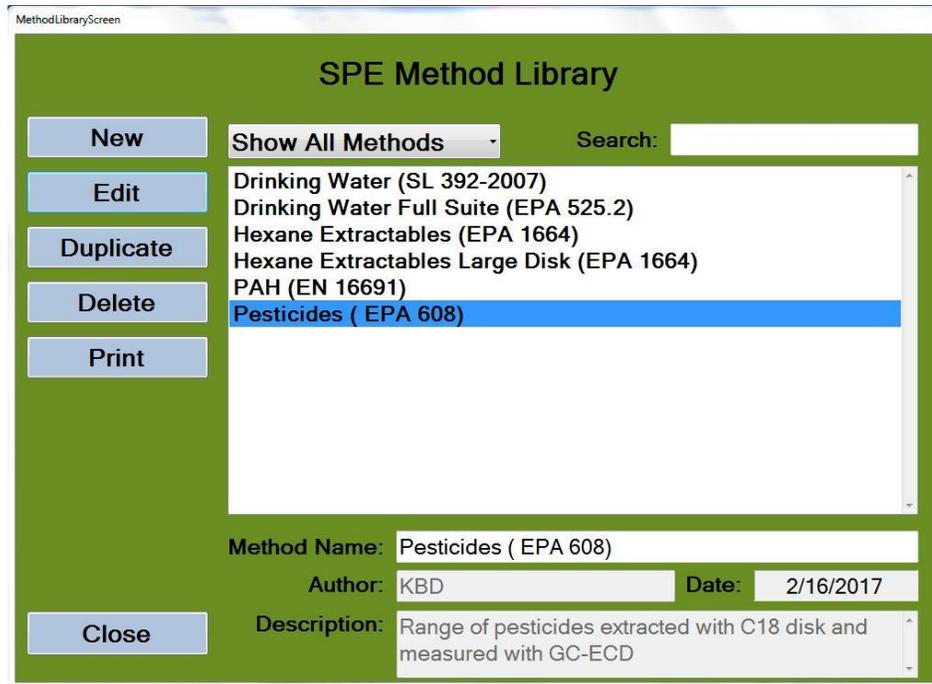

Figure 6-8. SPE Method Library Screen
Step 1: From the *Admin Menu* screen, click *Method Library* button. The screen shown in Figure 6-8 will appear – note, this screen is only an example – your screen may be different.